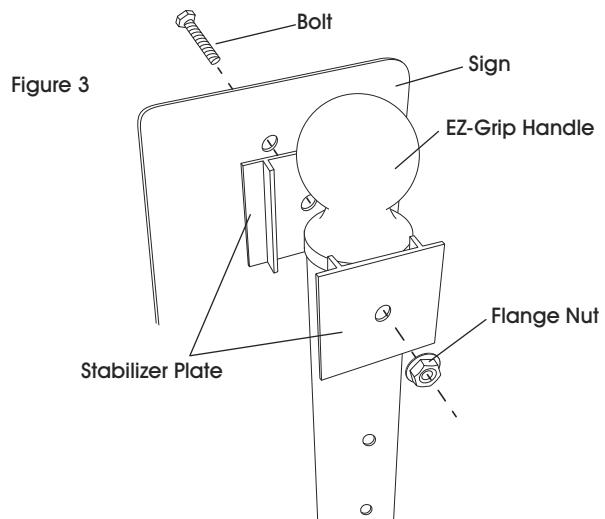

Figure 4
7. Add the second stabilizer plate to the end of a bolt and loosely secure with a flange nut. (See Figure 4)